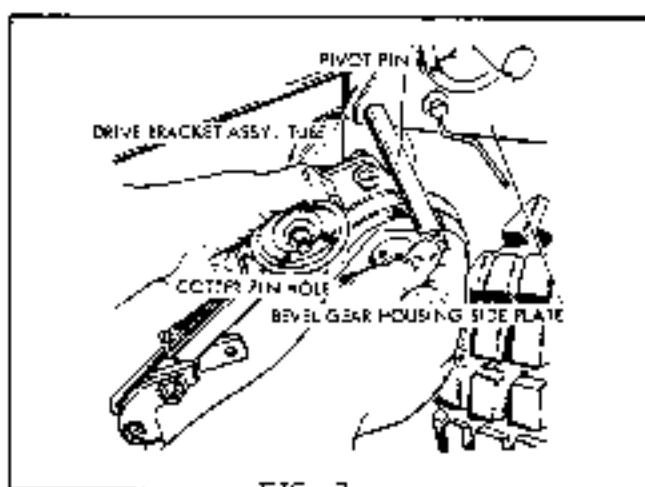
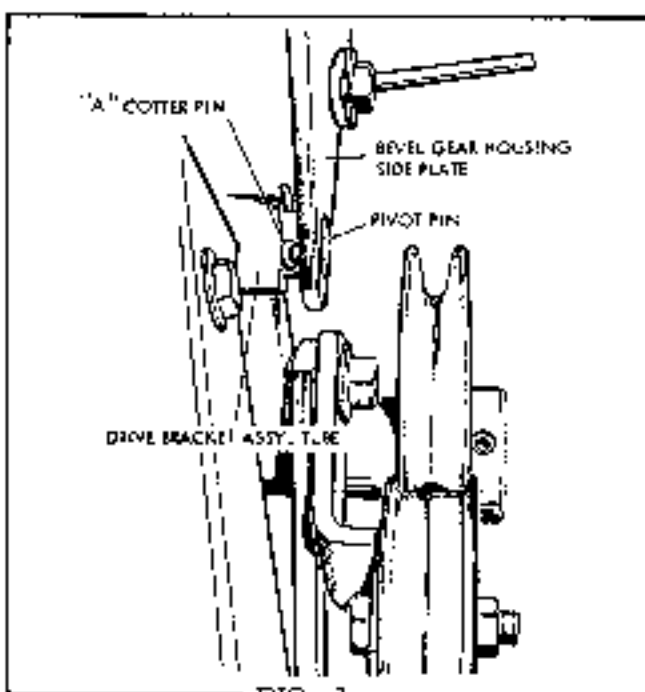

FIG. 2
FIG. 3
3. Holding the P.T.O. assembly in L.H. (Fig. 2) position the tube of the drive bracket assembly between the bevel gear housing side plates. Align the holes in the side plates with the hole in drive bracket assembly tube and insert pivot pin through holes in side plates and drive bracket assembly tube, so the cotter key hole in pin lines up at "A". (Fig. 3)